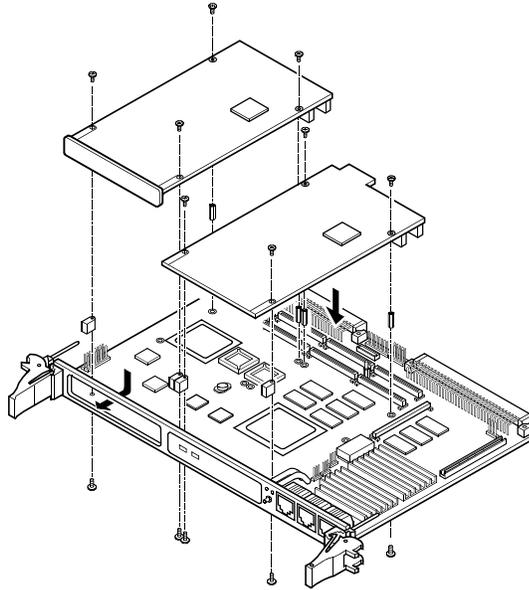

Figure 1-3. Typical PMC Module Placement on an MVME5100
6. Insert the appropriate number of Phillips screws (typically 4) from the bottom of the MVME5100 into the standoffs on the PMC module and tighten the screws (refer to Figure 1-3).